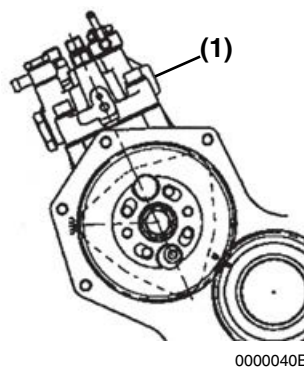

Figure 7-32
1. Locate and record the fuel injection pump timing index number (**Figure 7-33, (1)**) stamped into the boss on the engine side of the fuel injection pump housing (**Figure 7-32, (1)**). Treat this number as though there is a decimal point between the two digits. i.e. 68 = 6.8